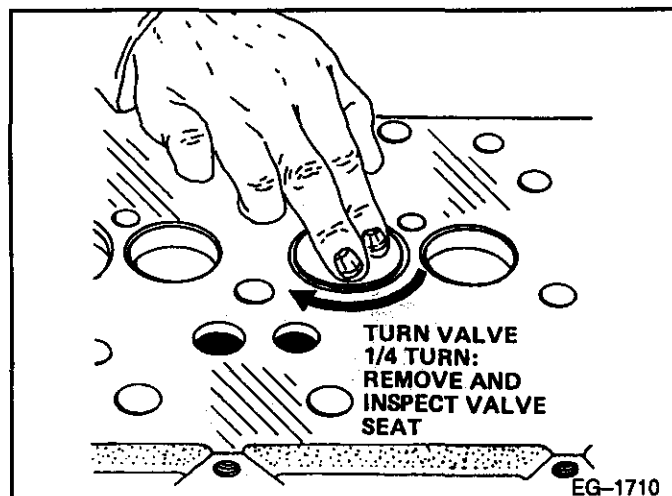
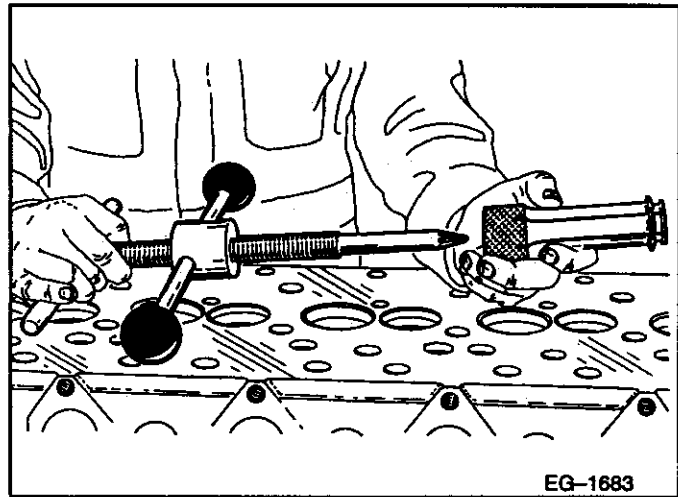

FIGURE 7-40
FIGURE 7-45
- b. Apply pressure on exact center of valve head while making a quarter turn in the seat. Refer to **FIGURE 7-40**.
If a new valve will not correct an excessive recession condition, the valve seat must be replaced and reground. If the valve face protrudes above the deck, the valve seat will have to be reground deeper into the head. After regrounding any seat, recheck the seat width (see FIGURE 7-44) and confirm valve seat contact using Prussian Blue™ (see FIGURE 7-45 and FIGURE 7-40).